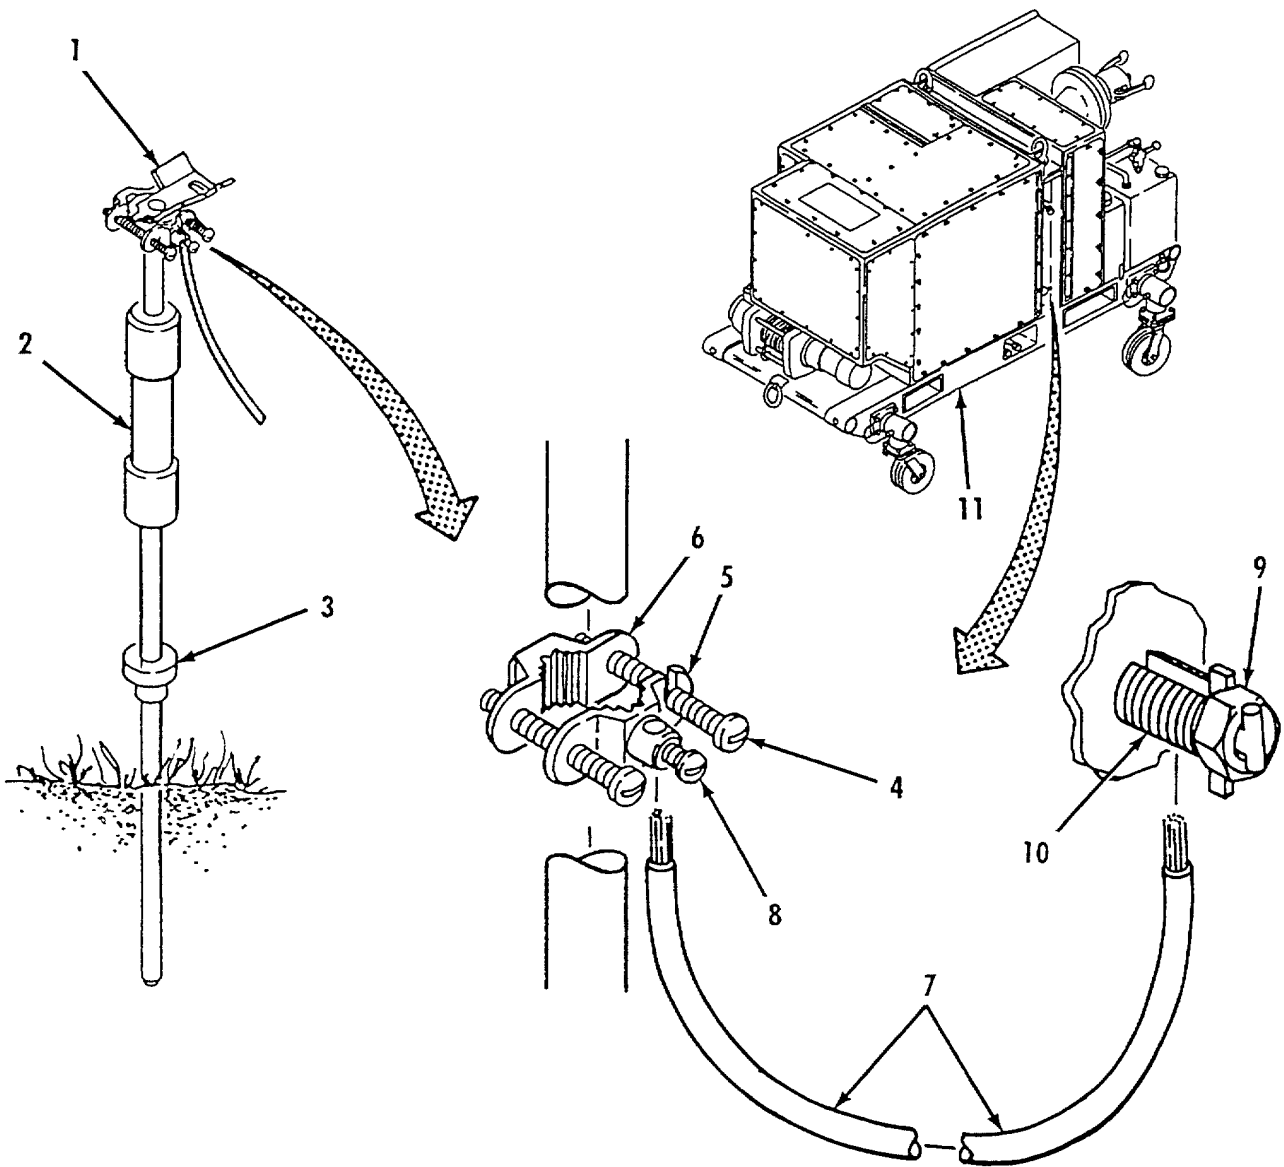

Figure 2-22. 200 GPM Pump Ground Rod Removal.
- b. 200 GPM Pump Ground Rod Removal. Refer to figure 2-22.